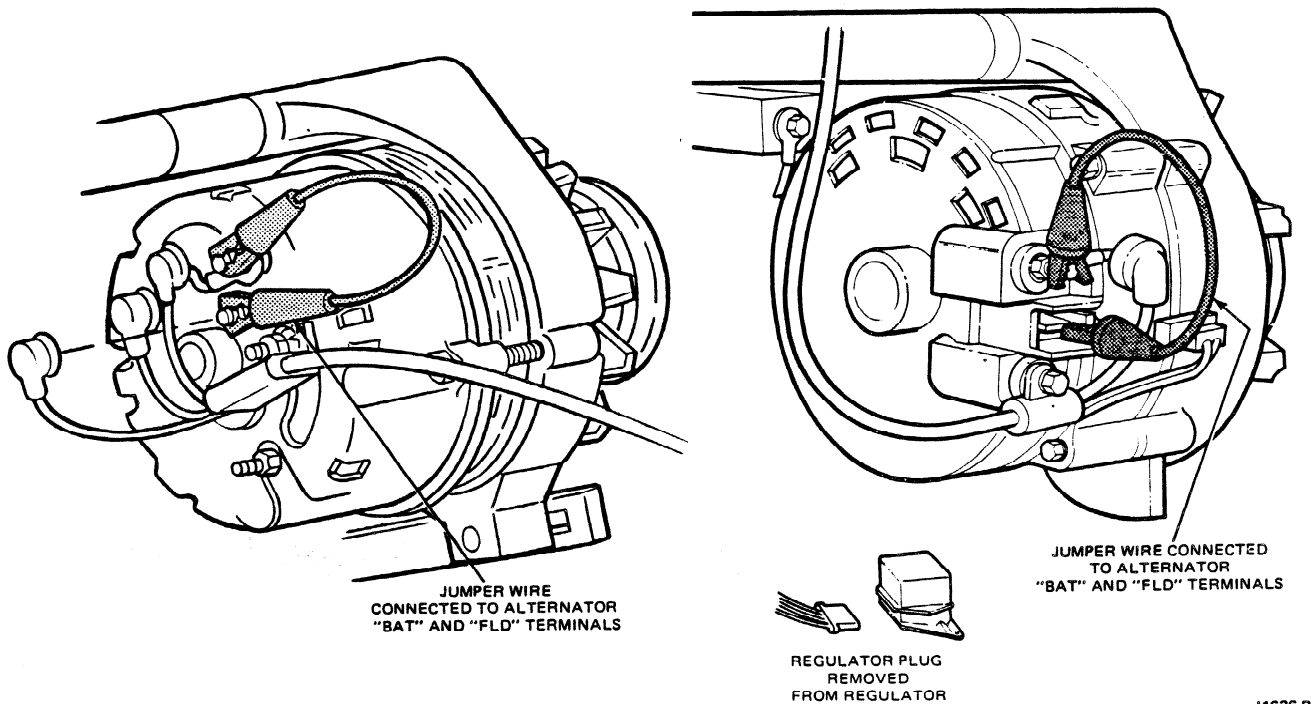

FIG. 13 Jumper Wire Connections
3. If the Voltmeter Test Procedure still indicates a problem (under voltage), remove the jumper wire from the regulator plug and leave the plug disconnected from the regulator. Then, connect a jumper wire to the FLD and BAT terminals on the alternator (Figure 13).